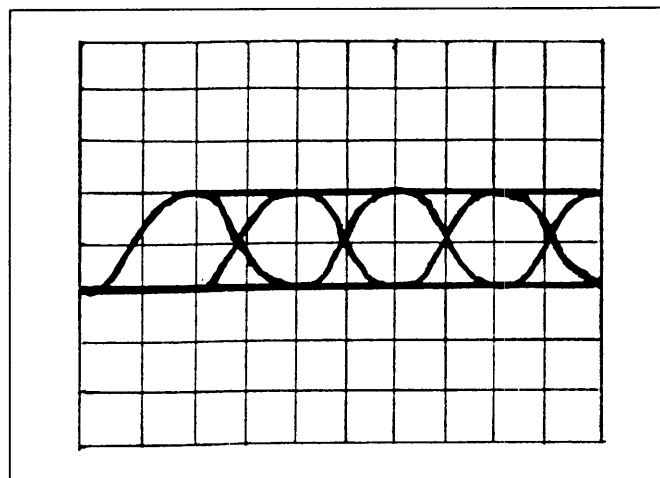

Figure 1 - High Speed Data Eye Pattern
1. Input a companion radio high speed dotting data TX output in the antenna port at 25 milliwatts. Verify an optimum receive eye pattern on the VOL/SQ HI line at J705-3. A typical Eye Pattern is shown in Figure 1.